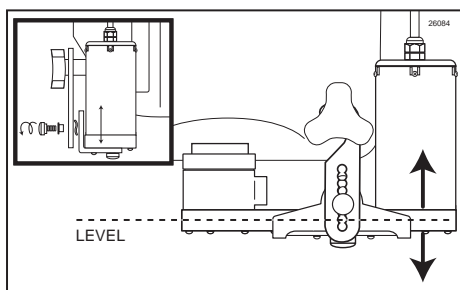

Figure 18
3. Ensure that the Injector Assembly is level horizontally and make any adjustments to the Suspension Bracket as needed using the adjustment hand knob. (See Figure 18.)